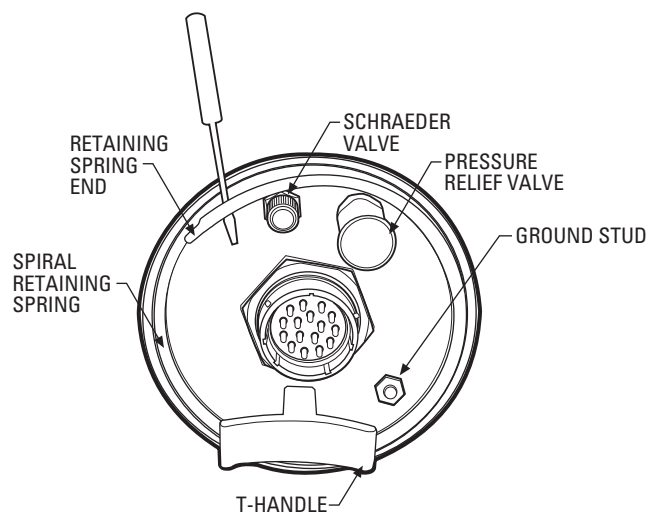

Figure 1. EH8100 Series Enclosure - Rear View
1. Remove the rear plate of the enclosure. Refer to Figure 1 and do the following:
Refer to Figure 1 and do the following to pressurize the inside of the enclosure with nitrogen:
3. Remove the center cap from the Schraeder valve. Refer to Figure 1.
5. Remove the rear plate of the enclosure. Refer to Figure 1 and do the following: